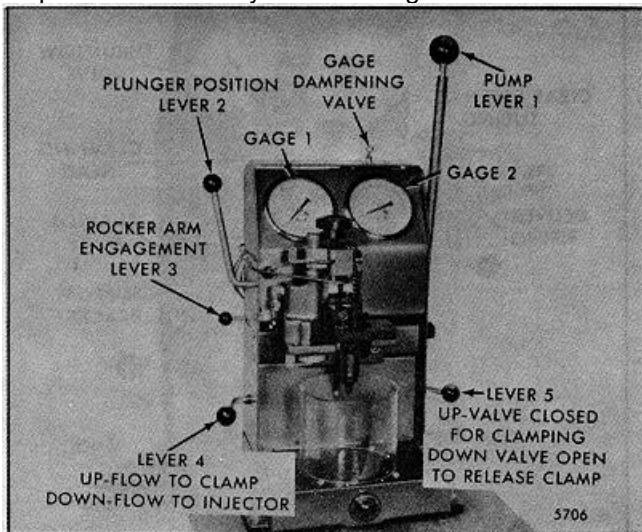

FIG. 13 Injector in Position for Testing with Tester J 23010
1. Refer to Fig. 13 and position the tester levers as follows: